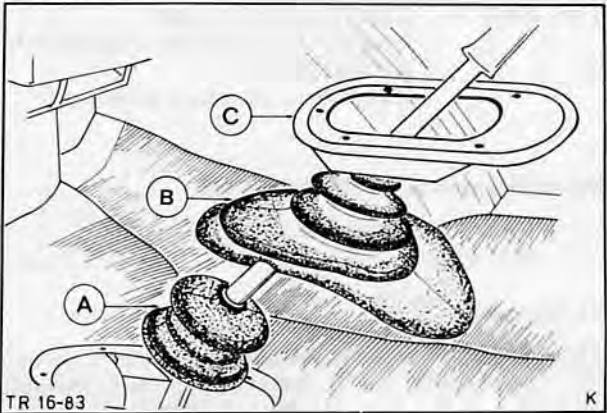

Fig. 135. A – Bottom rubber gaiter
- 2. Remove cover plate (6 screws), Fig. 135.